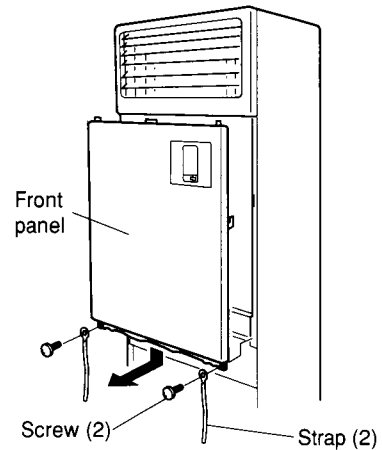

Fig. 40
- ② Removing the Front panel
- a. Using a phillips head screw driver, remove the 2 screws and straps securing the front panel. (Fig. 40)
- b. Place your hands on both side of the front panel, slide it downwards and pull it toward you. The panel will detach easily from the unit. (Fig. 40)